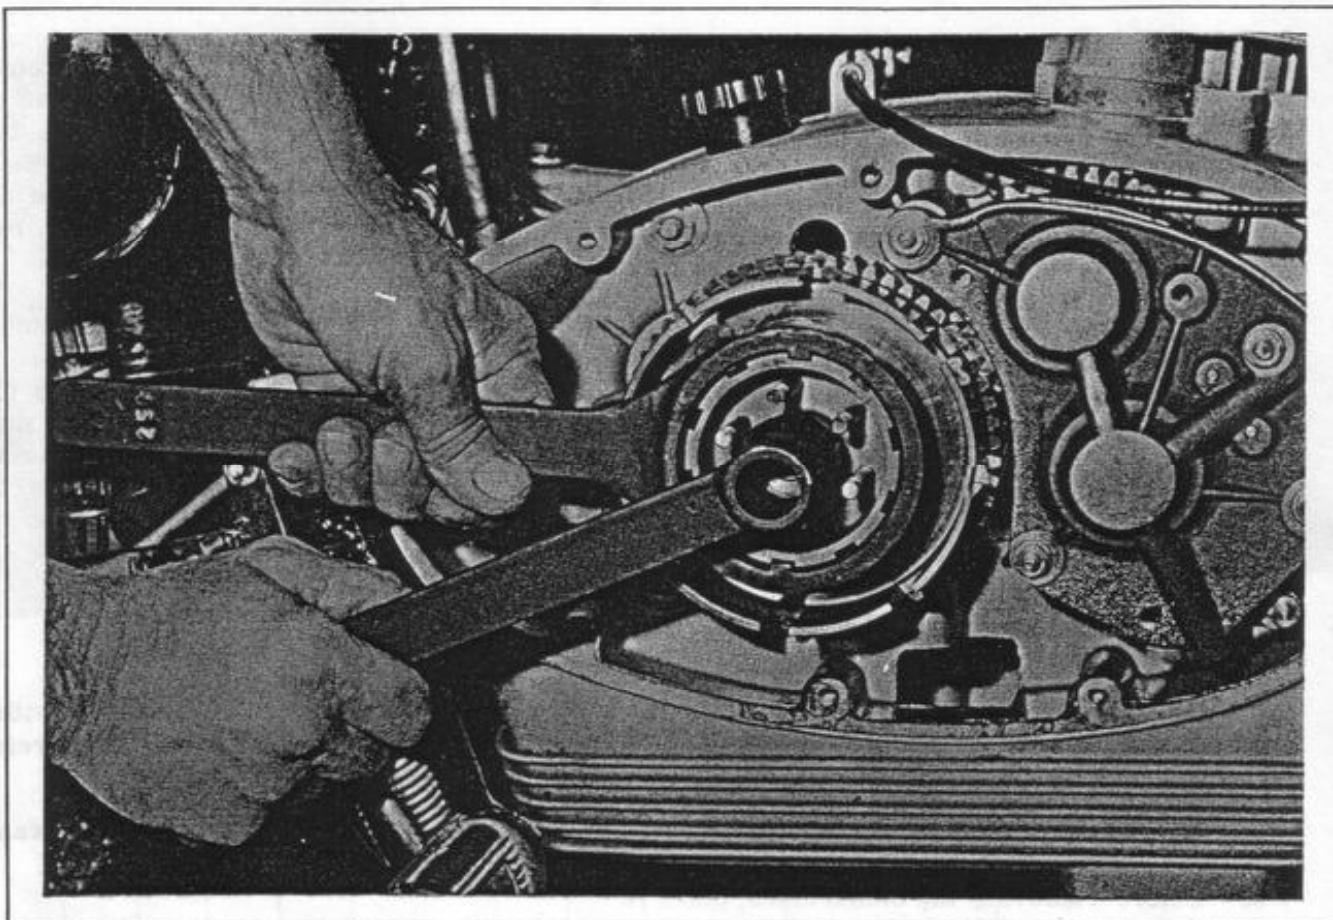

Figure 18.
7. Open tab lock washer, reference 61, and use tool M to remove primary shaft nut 60 while holding the clutch disc holder (clutch hub), reference 49 with tool II (Figure 18).